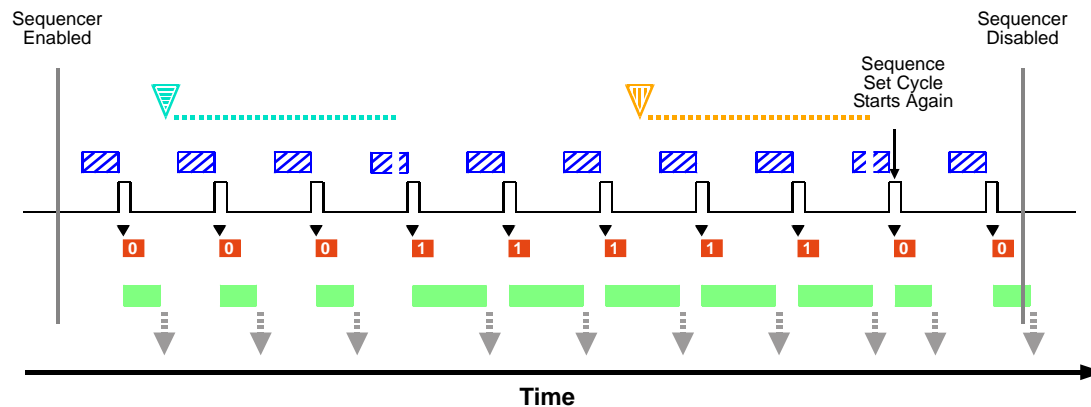

Fig. 78: Sequencer in Controlled Sequence Advance Mode with Disabled as the Sequence Control Source and Asynchronous Advance and Restart
The following use case (see also Figure 78) illustrates the operation of the sequencer in controlled sequence advance mode with Disabled selected as the sequence control source. Sequence set advance proceeds in ascending sequence set index numbers subject to asynchronous advance commands. After one sequence set cycle is complete, another one starts. Sequence set cycle restarts are subject to asynchronous restart commands.
- When the AsyncAdvance command becomes effective, the camera happens to be in "waiting for frame start trigger" status. The parameter values of the next sequence set, i.e. of sequence set 1, are loaded into the active set. Note that the camera briefly exits the "waiting for frame start trigger" status while the parameter values of sequence set 1 are loaded into the active set (see also Figure 78).
- When the AsyncRestart command becomes effective, the camera happens to be in "waiting for frame start trigger" status. The parameter values of sequence set 0 are loaded into the active set. Note that the camera briefly exits the "waiting for frame start trigger" status while the parameter values of sequence set 1 are loaded into the active set (see also Figure 78).